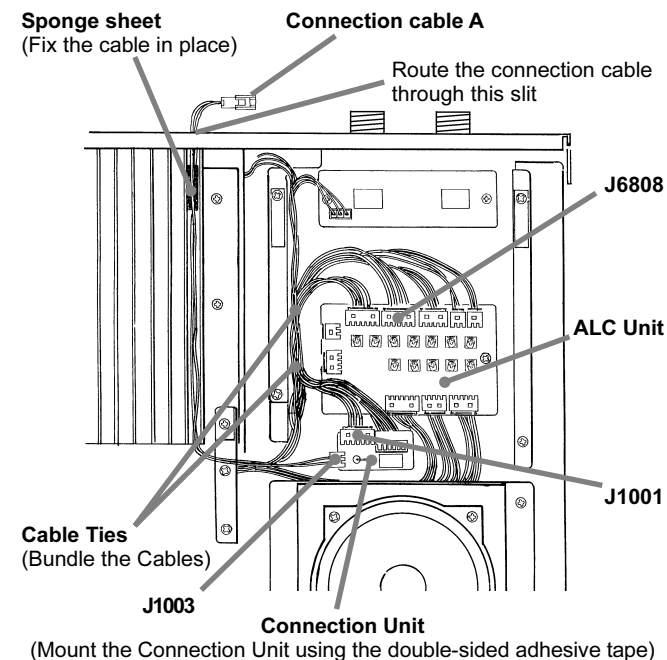
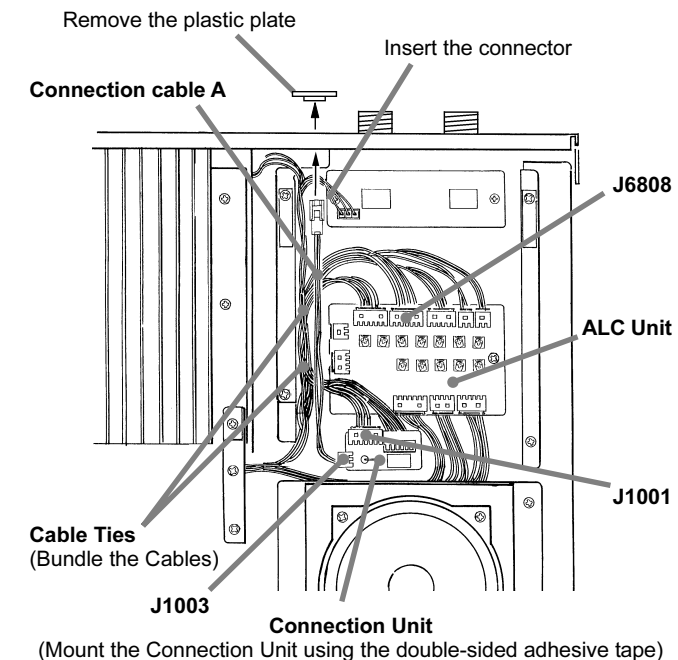

Figure 3 (FT-1000MP original version)
Figure 4 (MARK-V FT-1000MP Field)
- Referring to Figure 3 for the **FT-1000MP** (original version) or Figure 4 for the **MARK-V FT-1000MP Field**, disconnect the 6-pin connector from **J6808** on the ALC Unit, then connect this 6-pin connector to **J1001** on the Connection Unit.
- In the **FT-1000MP** (original version), route the supplied (short) Connection Cable A through the heatsink slit from the rear panel side, then connect it to **J1003** on the Connection Unit. Place this (short) connection cable onto the supplied sponge sheet, and then place this sponge sheet (w/Connection Cable A) into the slot of the heatsink to fix the cable in place (Figure 3).
- In the **MARK-V FT-1000MP Field**, remove the plastic plate from the rear panel, then insert the connector of the supplied (short) Connection Cable A, from the inside, into the exposed rear-panel cut-out. Connect the other end of Connection Cable A to **J1003** on the Connection Unit (Figure 4).